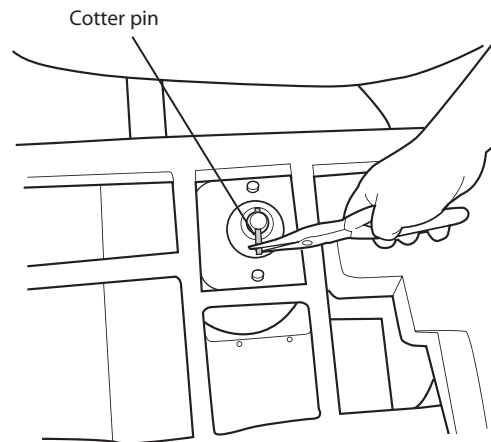

Fig.3
5. Using a needle-nosed pliers, remove the cotter pin from the base pedestal nut (Fig.3).